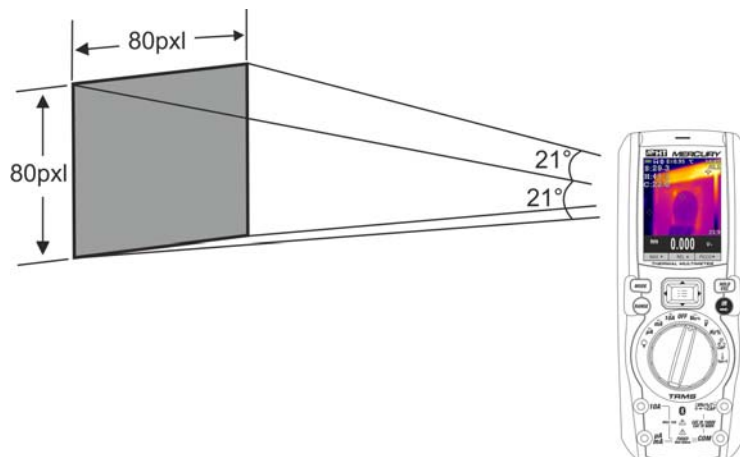

Fig. 39: Representation of the field of view (FOV) of MERCURY
7. For accurate temperature measurements, make sure the surface of the measured object is always bigger than the surface measurable by the instrument, which is given by the instruments field of view (FOV). MERCURY has a field of view of $21^\circ \times 21^\circ$ and a detection vector of 80×80 (6400) pxl, as described in Fig. 39